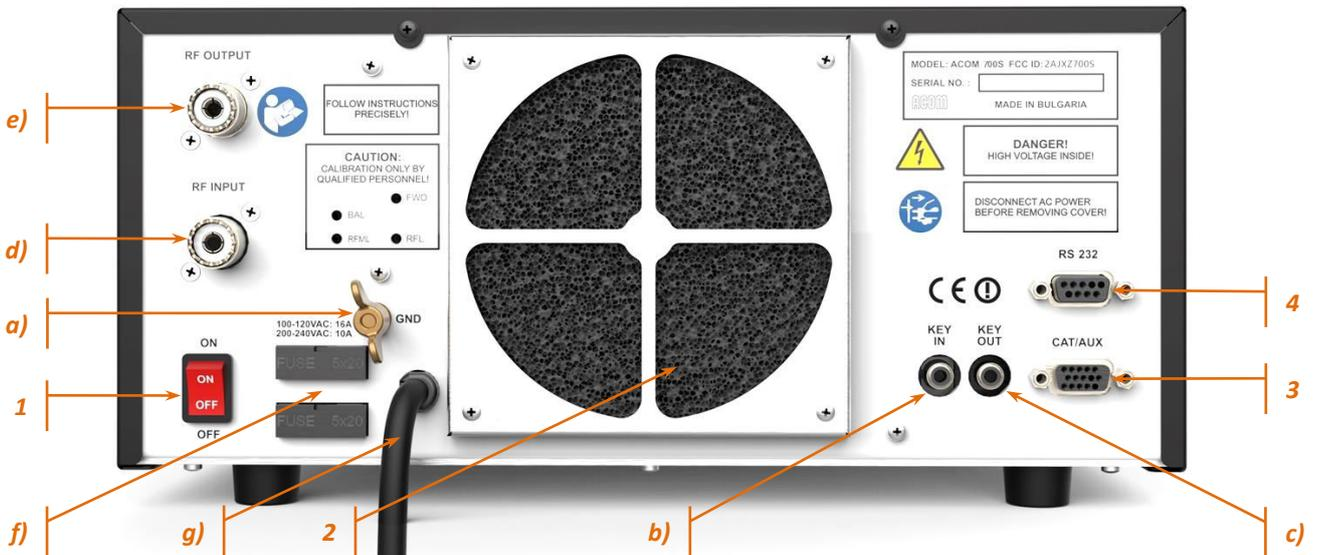

Figure 2-4 | Rear panel - Connections
The ACOM 700S linear amplifier is a Safety Class I unit regarding protection against electric shock. The third grounding lead of its mains cord (which is colored yellow with two green stripes) and the ground stud on the rear panel of the amplifier (marked **GND**, see Figure 2-4 | Rear panel - Connections, Pos. (a)) must be connected to the station's grounding system for safe operation.
For safe operation, the amplifier's grounding stud on the rear panel (marked **GND**, see Figure 2-4 | Rear panel - Connections) should be connected according to the applicable standards and local regulations for electric safety, fire safety and lightning protection, in all cases when the radio station is equipped with outdoor antenna(s)!
Please, see **Figure 2-4 | Rear panel - Connections**.
Use a green and yellow ground wire to connect the wing-nut grounding stud of the amplifier (on the rear panel, marked **GND**) to the station's grounding system. (See *Figure 2-4 | Rear panel - Connections*, Pos. (a))
Run a shielded cable from the "ground on transmit" connector or terminal on your transceiver to the amplifier rear panel **KEY IN** connector (see Figure 2-4 | Rear panel - Connections, Pos. (b)). The **KEY IN** connector uses a standard RCA phono plug.
If your transceiver has a suitable input that disables transmission unless grounded externally, we recommend that you connect it with a shielded cable terminated in a Phono (RCA) connector to the **KEY OUT** connector (see Figure 2-4 | Rear panel - Connections, Pos. (c)) of the amplifier.
Connect a suitable coaxial cable from the transceiver output to the amplifier **RF INPUT** SO-239 connector (see Figure 2-4 | Rear panel - Connections, Pos. (d)), using PL-259 plug.
Connect a suitable coaxial cable with a PL-259 plug from the **RF OUTPUT** (see Figure 2-4 | Rear panel - Connections, Pos. (e)) to the antenna switch or tuner, or to antenna for the respective frequency band.
Please, see **Figure 2-4 | Rear panel - Connections**, Pos. (f).
Please, see **Figure 2-4 | Rear panel - Connections**, Pos. (g).
Please, see **Figure 2-4 | Rear panel - Connections**, Pos. (3).